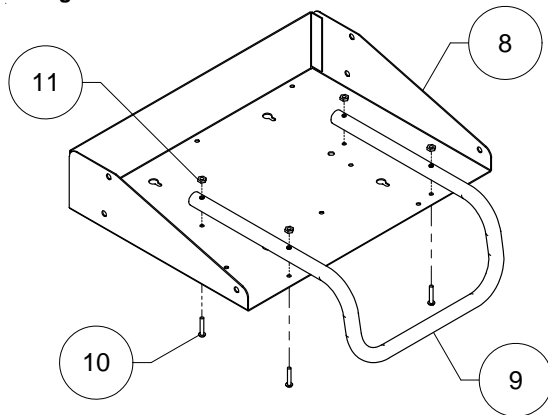

Figure 2
3. Attach the top plate (8) and handle (9) with 4 each of #10x1" screws (10) and #10 nuts (11). See Figure 2.